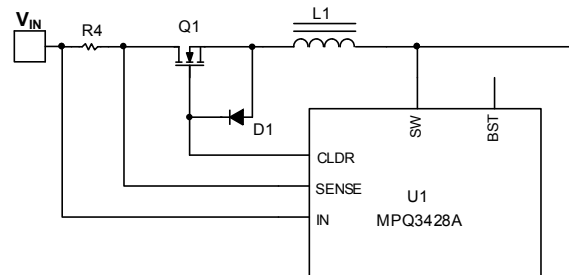

Figure 4: Gate Protection Diode for High Output Voltage Condition
3. **SQA:** The MOSFET should survive when conducting a current pulse that has a high level of V_{CL} (mV) / R_{SENSE} (m Ω) and lasts for C_{SS} (nF) x 0.7 (V) / 7 (μ A) + 0.5ms.
4. **Gate-to-source voltage rating:** The positive gate-to-source voltage rating should be greater than 5.5V, while the negative voltage rating should be greater than the value of the output voltage. If the output voltage is too high and the MOSFET gate-to-source rating cannot meet the requirement, a diode from the source to the gate of the disconnecting MOSFET is recommended (see Figure 4).